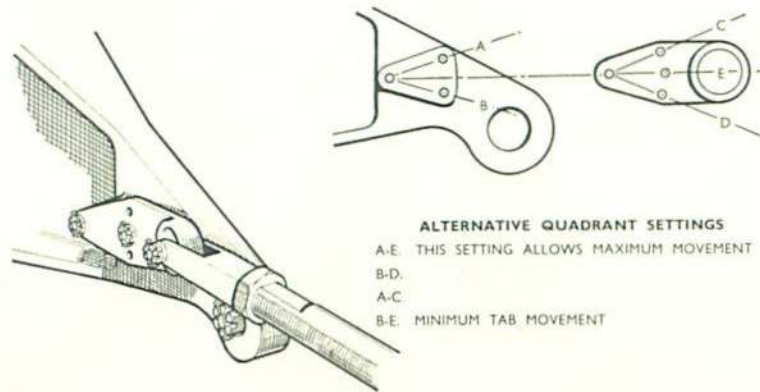

Fig. 5 Aileron balance tab adjustment
6. The method of setting the quadrant to obtain the various degrees of servo movement on the tab is illustrated in Fig. 5. The correct range of movement is given in Fig. 13 which is obtained by lining up holes A and E (Fig. 5). This movement is subject to small alterations for correction of trim. Other settings give a lesser degree of overall movement. After